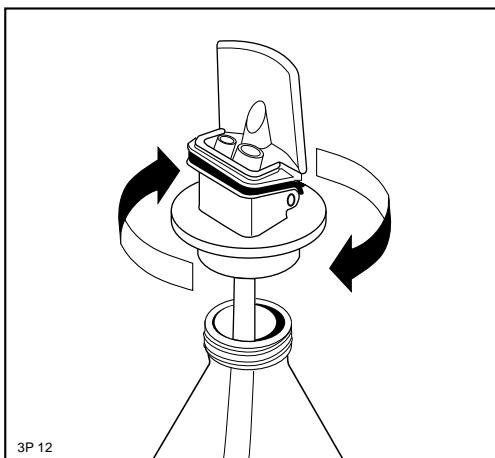
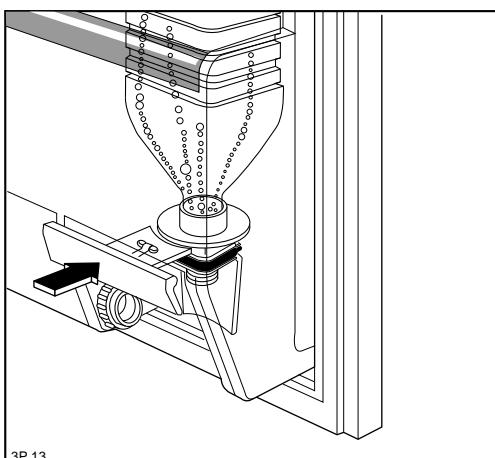
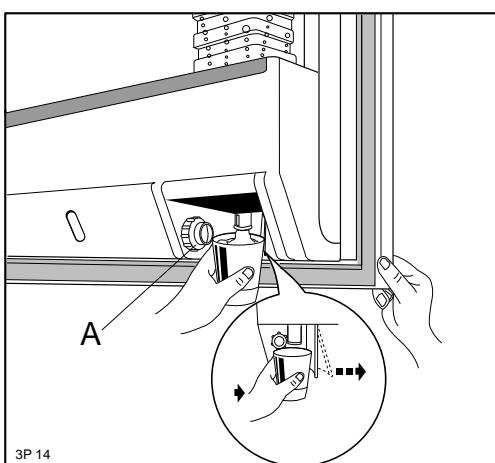

Fig. 7
Fig. 8
Fig. 9
The ideal way to have drinks "on tap". Simply take a bottle of your favourite drink, fit the special dispenser top (Fig. 7) and place the bottle upside down in the holder on the inside of the door (Fig. 8): press lightly with the glass to dispense drinks (Fig. 9).
The reducer (A) is normally stored next to the tube holder compartment (Fig. 9) and must only be used on glass bottles.